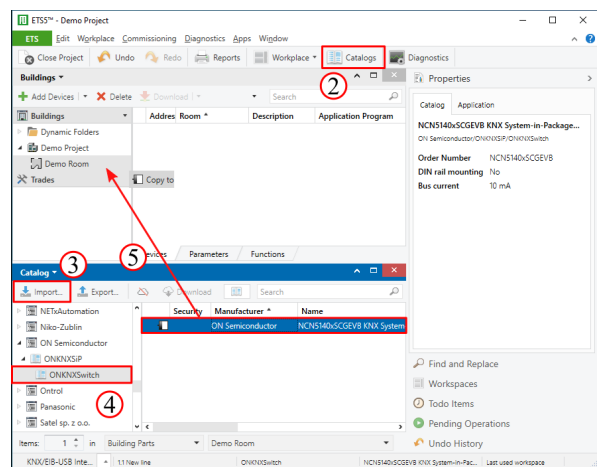

Figure 21. Add the Evaluation Board to the ETS Project
Once successfully navigated to the evaluation board as in figure 21 drag it ⑤ to the room created earlier.